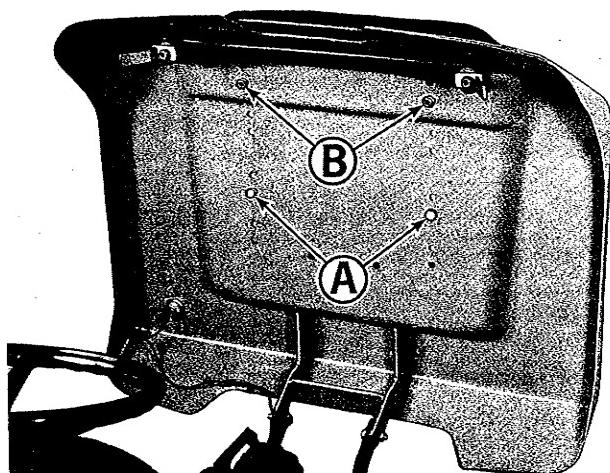
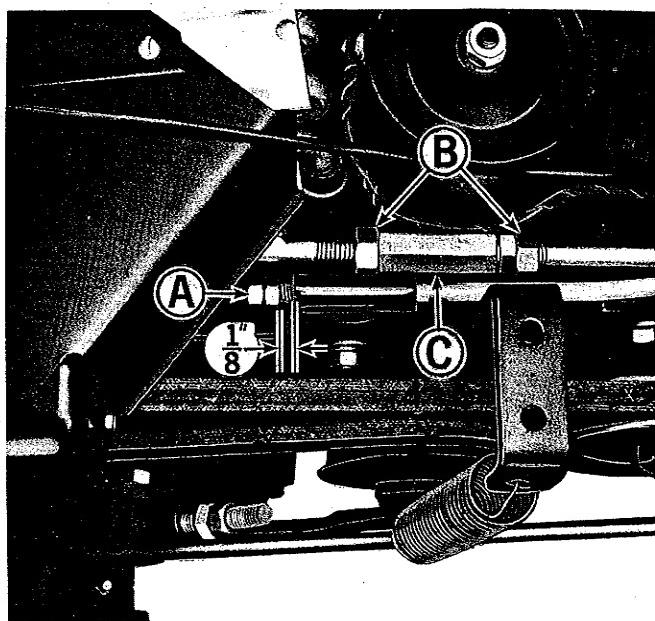

Figure 9. Seat deck raised.
Figure 10. Clutch free travel and hydrostatic transmission neutral adjustment.
locks out raise the seat deck as shown in figure 9. Raising the seat deck in this manner will expose many of the transmission adjustment and maintenance areas.
See figure 9. The tractor seat is properly adjusted when the operator can comfortably operate the clutch and brake pedal while sitting back in the seat. The seat can be adjusted forward or back in any of four positions. If adjustment is required, proceed as follows:
1. See figure 9. Position the seat deck as shown by following the instructions under Raising the Seat Deck on page 10.
2. Remove the two cap screws and lock washers at (A).
3. Remove the two nuts and lock washers at (B).
4. If the seat is to be positioned in either of the two forward sets of mounting holes the two rubber spacers are placed over the studs at (B) and used between the seat and seat deck. If
See figure 10. The clutch free travel is correct when there is $\frac{1}{8}$ " between the nuts (A) and the rod guide when the clutch brake pedal is released and pulled rearward as far as it will go. If adjustment is required, proceed as follows:
1. Raise the seat deck as shown in figure 9, by following the instructions under Raising the Seat Deck on page 10.
2. Using two wrenches hold the forward nut at (A) stationary with one wrench while turning the rearward nut counterclockwise slightly with the other to separate them.
4. Turn the forward nut at (A) as necessary so that the distance between it and the rod guide is $\frac{1}{8}$ " as shown in figure 10.
5. Using two wrenches hold the forward nut at (A) stationary while turning the rear one clockwise to tighten the two nuts together securely.
3. See figure 10. Loosen the two locking nuts (B) on either end of turnbuckle (C).
7. Jack up and block the rear of the tractor, so the rear wheels are free to turn. Use an open end wrench to rotate the turnbuckle (Figure 10, item C) until the rear wheels do not rotate. When the rear wheels do not rotate when the engine is running at 1/3 full speed, the hydrostatic neutral adjustment is correct.
9. See figure 10. After allowing the belt and pulleys to stop turning, use two wrenches to tighten the locking nuts (B) against turnbuckle (C). Tighten the locking nuts (B) one at a time, while using the other wrench to hold turnbuckle (C) from rotating.